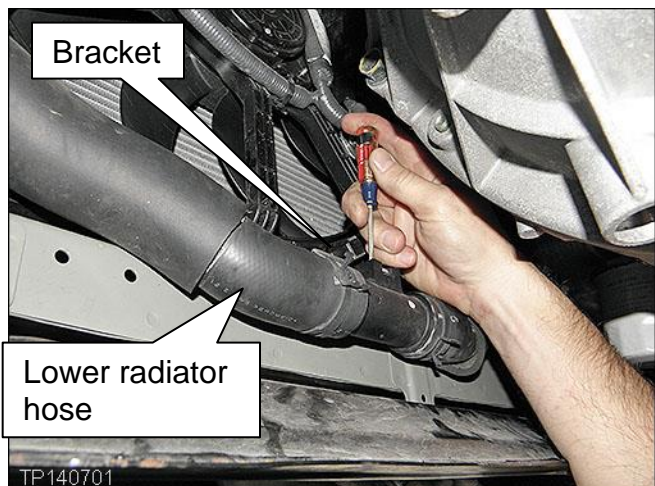

Figure 2
5. Disconnect the lower radiator hose/tube from the mounting bracket show in Figure 2.